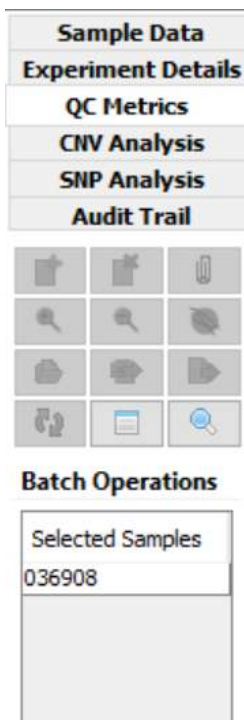
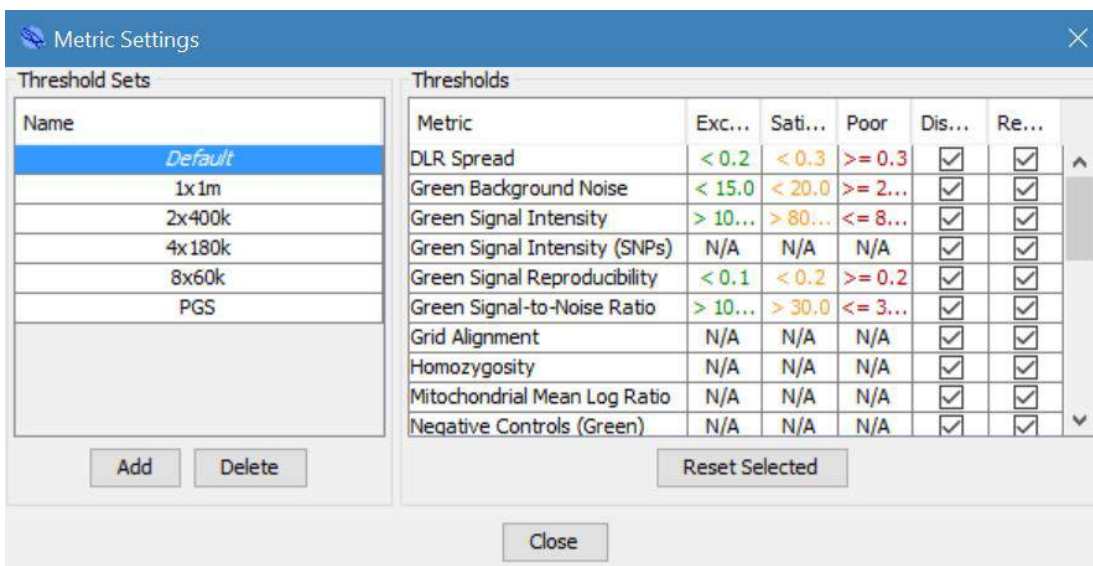

Figure 32: Central panel of Database Management tab indicating the location of the QC Metrics option.
Figure 33: Metric Settings window which can be accessed through the Database Management tab.
2. These details can also be accessed from the **Database Management** tab. First, select **QC Metrics** from the central panel (see Figure 32) and then choose the settings icon () which can be found in the middle of the lower row of icons. This will bring up a **Metric Settings** window like that displayed in Figure 33. The functionality of this window mirrors that of the **QC Metrics** tab of the **Options** menu, as seen in Figure 1 and described in step 1.